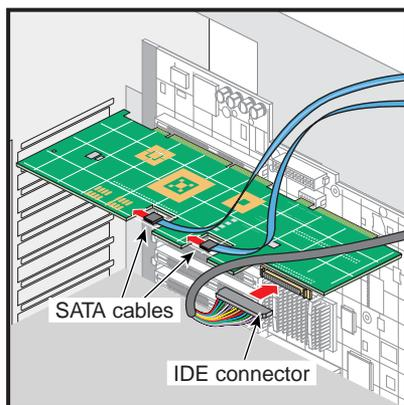

Figure 3-21 Connecting the Base I/O SATA and IDE Cables
5. Connect the SATA and IDE cables to the base I/O board. To connect a cable, align the cable connector with the socket on the I/O board and press down (see Figure 3-21).